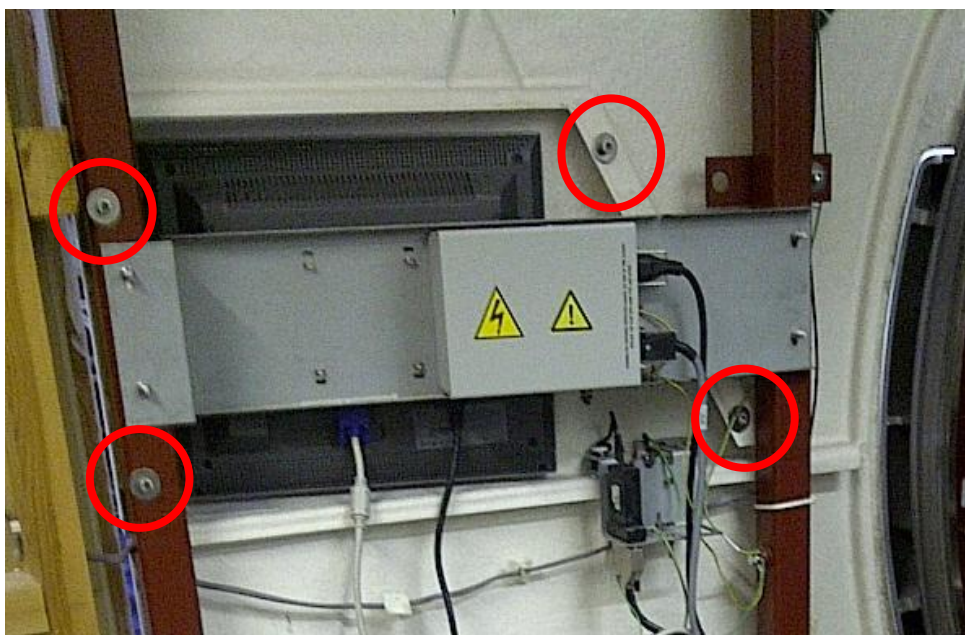

Figure 7: Second set of bolts
3. Remove the second set of 4 bolts (see Figure 7).